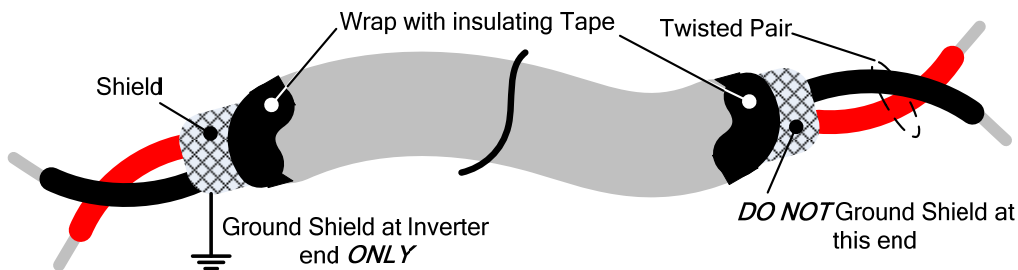

Fig. 3.17.1 Shielded Twisted-Pair
- (1) Separate the wiring for control circuit terminals from main circuit wiring for terminals (R/L1, S/L2, T/L3, U/T1, V/T2, W/T3).
- (2) Separate the wiring for control circuit terminals R1A-R1B-R1C (or R2A, R2C) (Relay outputs) from wiring for terminals ① - ⑧, A01, A02, GND, DO1, DO2, DOG, +10V, (-10V), A11, A12 and GND wiring.
- (3) Use shielded twisted-pair cables (#24 - #14 AWG / 0.5 -2 mm²) shown in Fig. 3.17.1 for control circuits to minimize noise problems. The maximum wiring distance should not exceed 50m (165 ft).